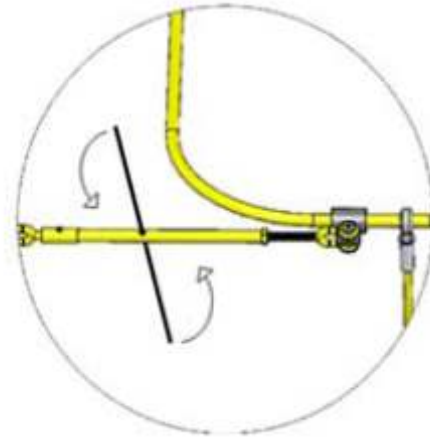

Figure 9
9. Tighten the four turnbuckles ½ turn at a time, using a bar inserted into the adjustment hole, shown in Figure 9 , in the turnbuckle until the recommended 1" to 1-1/2" per 10' of net is achieved. This should place the same amount of tension at each of the four turnbuckle's shear pins.